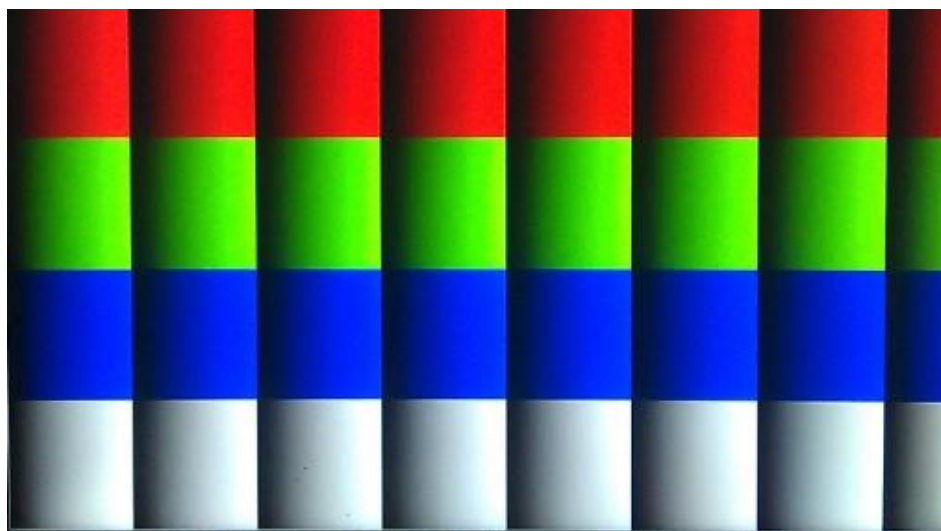

Figure 2-20 The video pattern in the HDMI_TX demonstration
4. **Figure 2-20** Setup for the HDMI_TX demonstration.